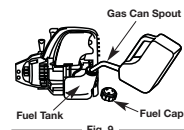

Fig. 9
2. While holding the unit in the operating position (Fig. 9), move the D-handle to the location that provides the best grip.
1. Remove the fuel cap (Fig. 9).
2. Place the gas container's spout into the fill hole on the fuel tank (Fig. 9) and fill the tank.